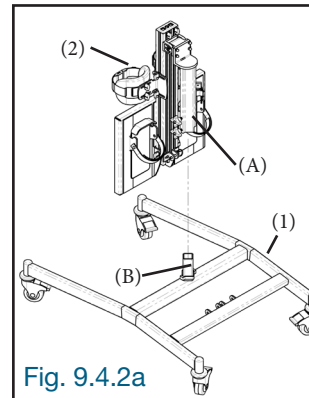

Fig. 9.4.2a
9.4.2a Slide the profile (A) of the frame (2) onto the tube (B) of the base with wheels (1) (Fig. 9.4.2a).